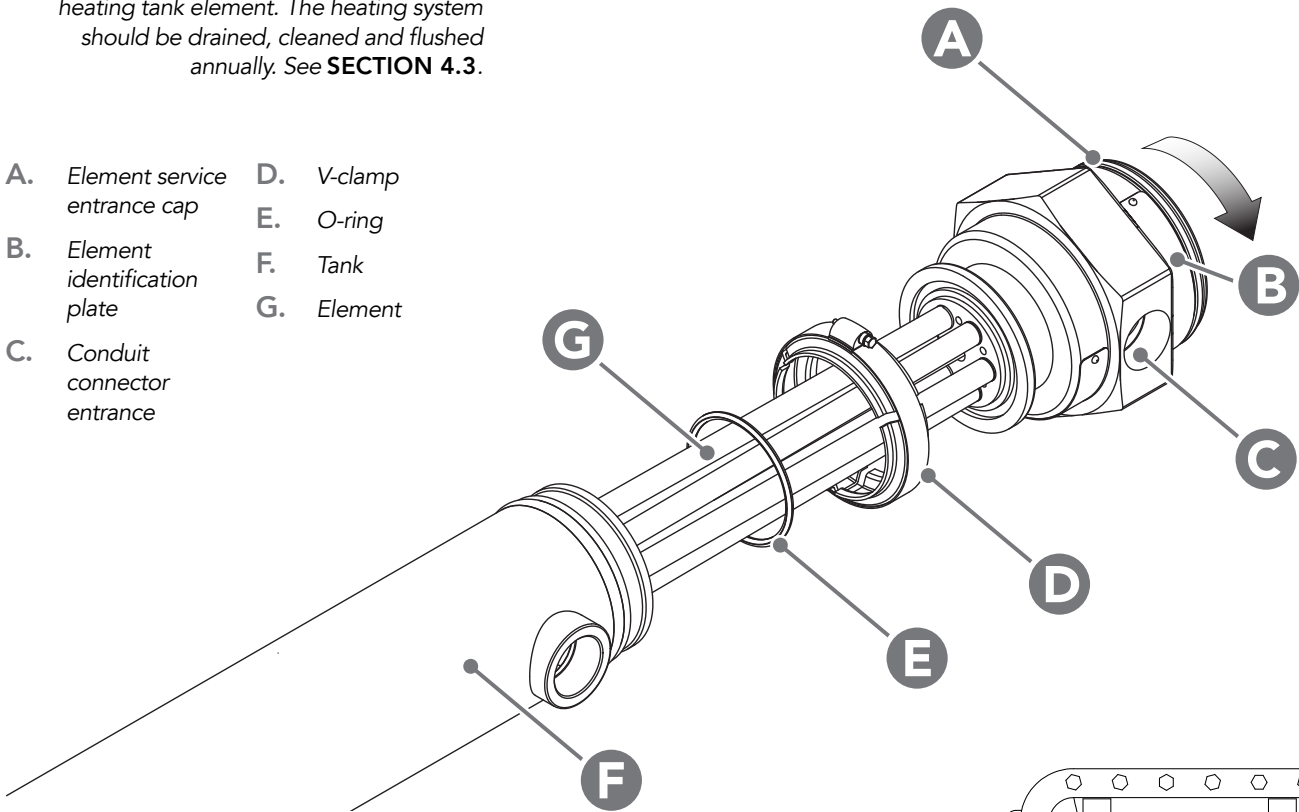

Figure 14. OCSE, showing element conduit (H).
7. Unscrew cable gland from conduit connector entrance **(C)**. Remove element conduit **(H)** and wires from the heating element. See *Fig. 14*.